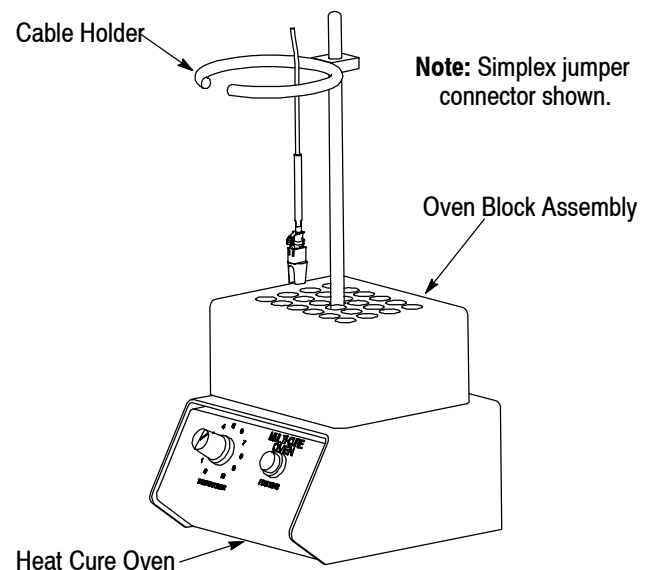

Figure 11
2. Place the connector subassembly (with attached cure protector) in the heat cure oven according to the instructions packaged with the oven. Refer to Figure 11. Cure the epoxy between 115° and 120°C [239° and 257°F] for a minimum of 15 minutes.